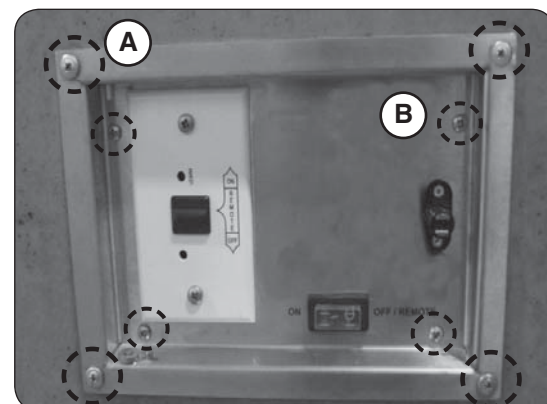

Fig. 37-3 Remove screws
2. Using a Phillips screwdriver, remove the 4 screws on the outer edge of the control box that are securing it into the side wall (see Fig. 37-3, A).
3. Slightly pull the control box forward in the cutout. Remove the 4 screws that are securing the control panel into the box (see Fig. 37-3, B).
1. Using a Phillips screwdriver, remove the 4 screws on the outer edge of the control box that are securing it into the side wall (see Fig. 37-3, A).